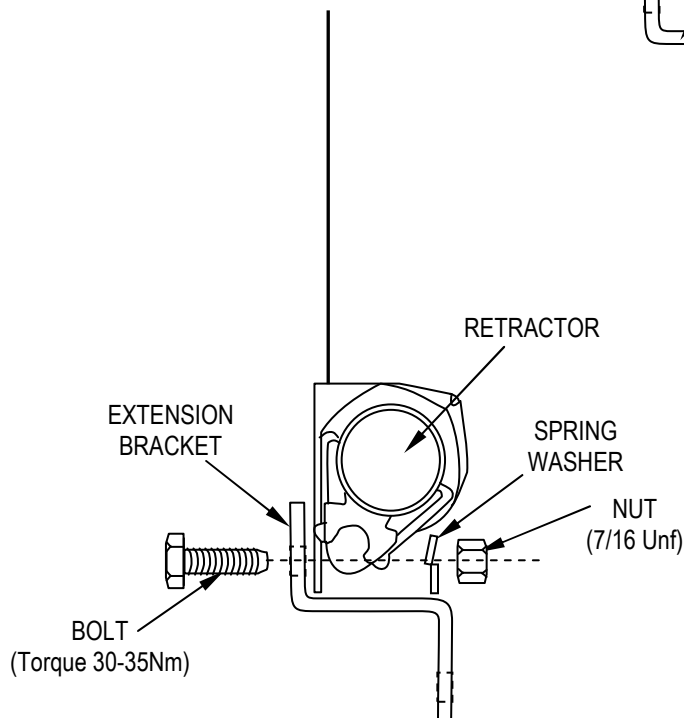

FIGURE 2
- Attach the Reverse bracket to the retractor as shown in Fig. 2. Use either a 7/16Unf bolt or 2 5/16unf bolts.